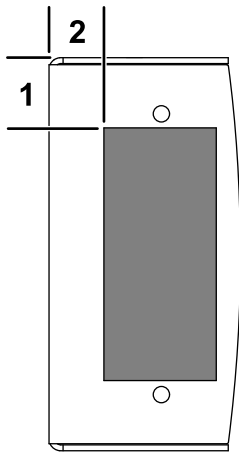

**Figure 25**
12. Apply 2 red reflective tape to the rear bumper and 1 reflective tape to each light housing using the dimensions shown in Figure 25 and Figure 26.